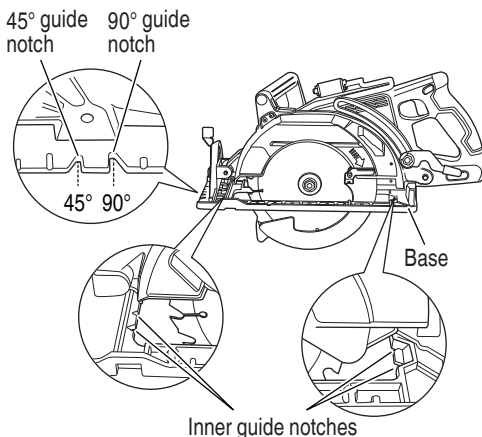

Fig. 27
- (1) The front of the base has a 90° guide notch and a 45° guide notch for vertical and bevel cutting. The guide notches enable you to guide the saw along the cutting lines marked on the workpiece. Also, the saw has the inner guide notches located on the insides of the base as shown in Fig. 27 to keep the straight cutting.
- (2) When the base is not inclined, use the right side of the notch.
If the base is inclined (45 degrees), use the left side of the notch (Fig. 27).
- (4) Tilt the saw forward and align the notch (Fig. 27) with the pre-marked guide line.
- (5) Release the lower guard lever. When the lower guard contacts the work piece surface, it will be in the proper position to open freely when cutting is commenced.
- (6) Holding the saw in position, with the blade not contacting the work piece surface, pull the trigger switch.
- (7) After the saw has reached full speed, gradually lower rear end of the saw until its base rests on the work surface.
- (8) Advance saw along the cutting line up to the corner.
- (9) Release the trigger switch and allow the blade to stop completely before withdrawing the blade from the work piece.
- (10) Use a jig saw or hand saw to cut the corners out clean.
- (11) When starting each new cut, repeat as above.